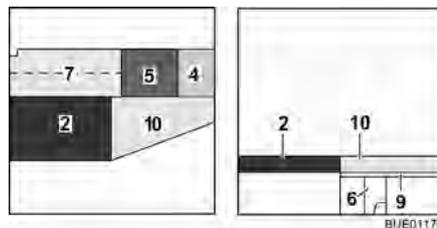

Fig. 120 After conversion
- Place the seat cushion (Fig. 120,5) in the centre.
- Place the back cushion (Fig. 120,4) between the seat cushion and the wall.
- Place the additional cushion (Fig. 120,10) on the bed widening.